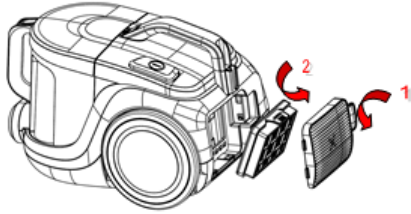

Fig.14
- a) As in fig. 14, press the outlet lock to open the outlet board and get the outlet filter out.